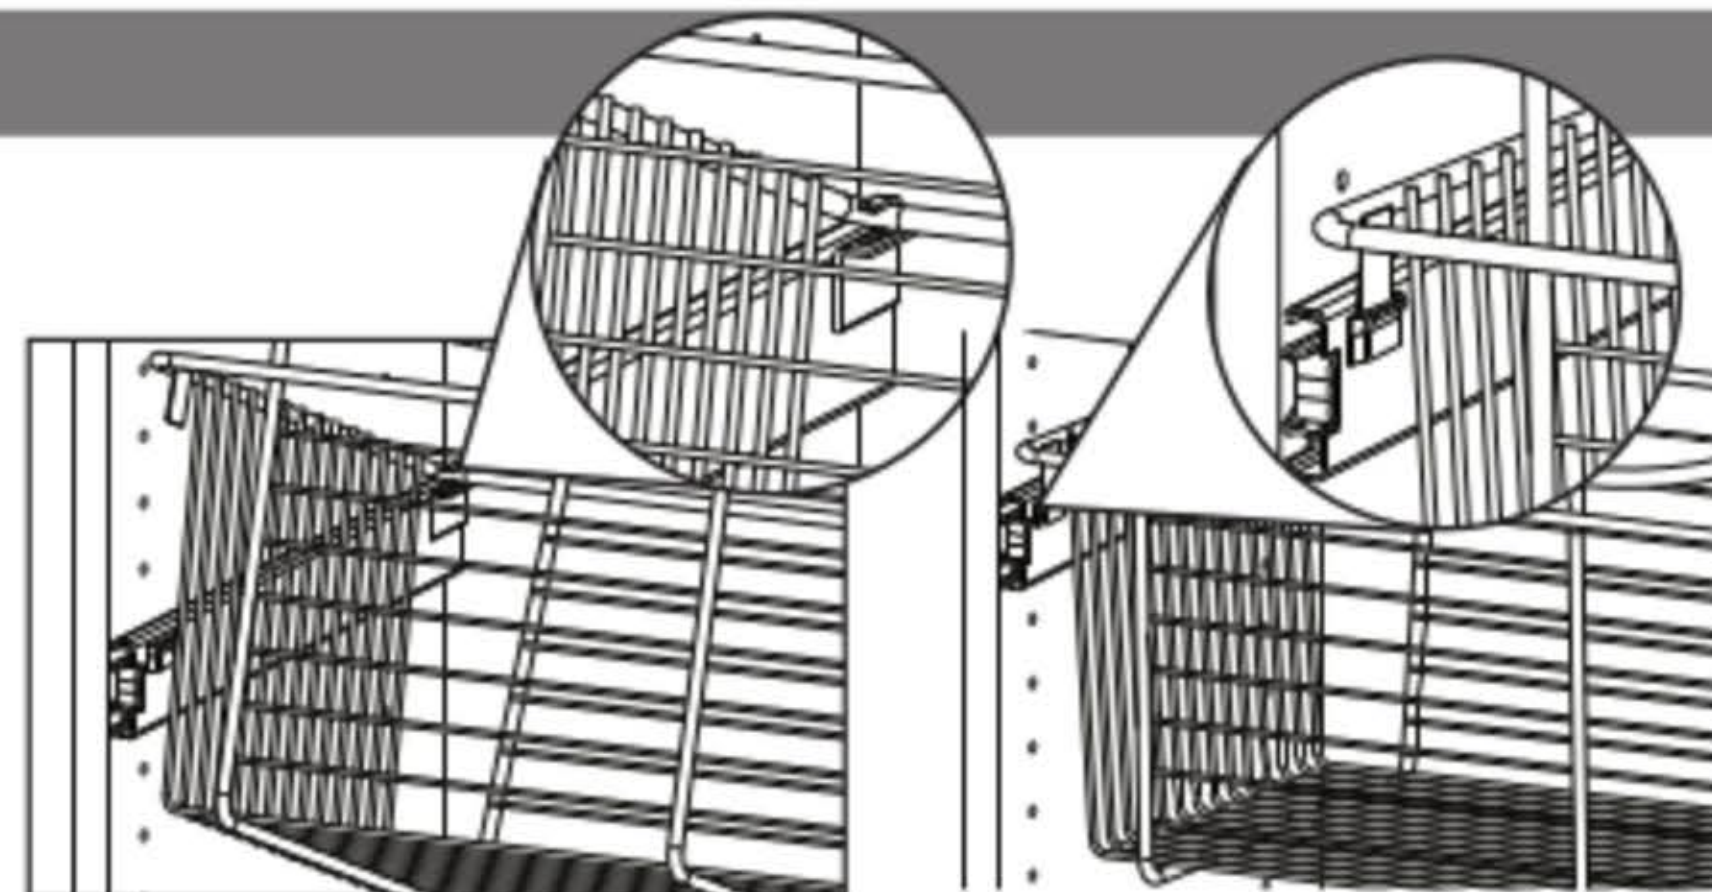

FIGURE 2
4. Place back wire of basket into hook on left and right slides. (Fig. 2)